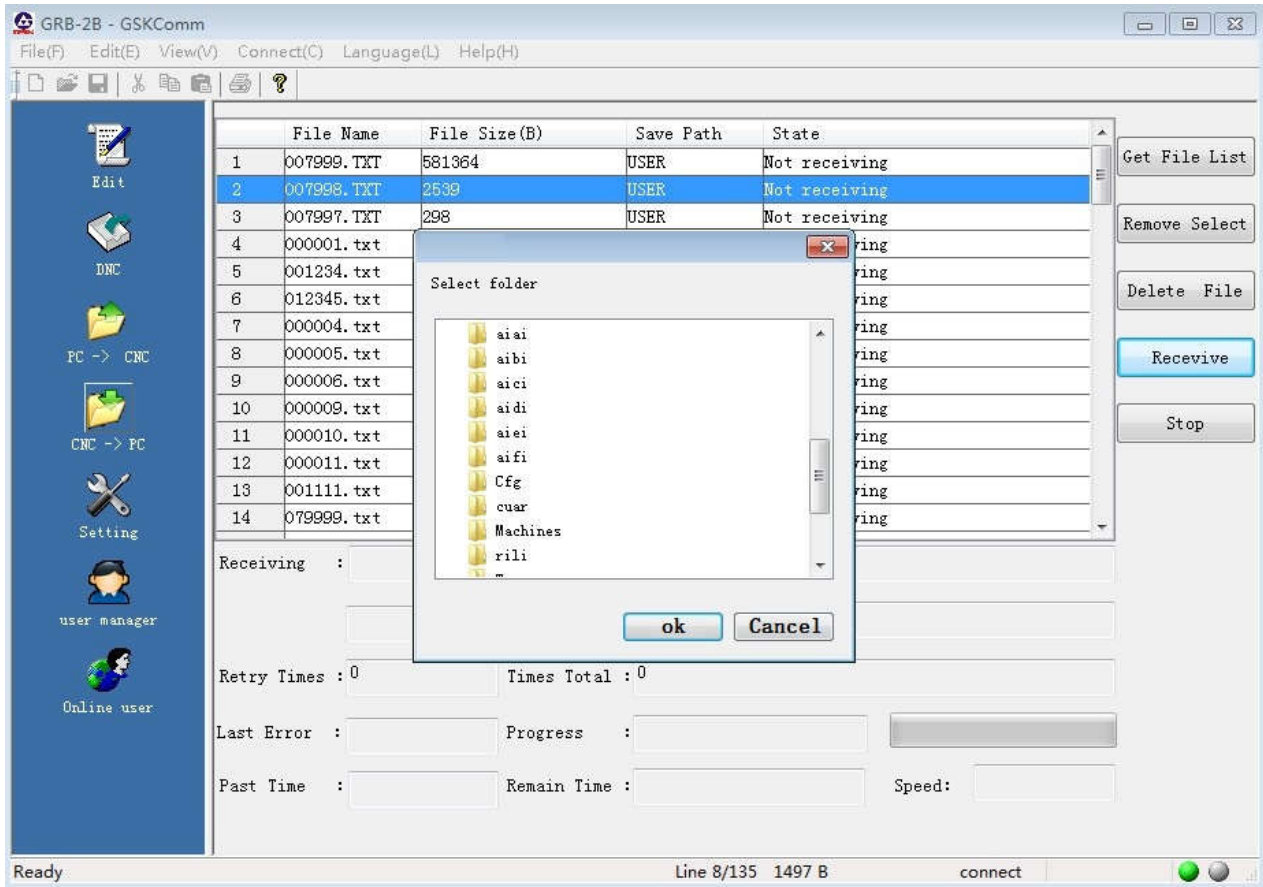

Fig. 11-3-2-7
4. After the file is received, the status bar of the file list item displays “Received”. As shown in the figure 11-3-2-8.